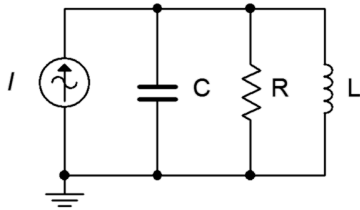

Figure 8.13
42. Investigate the “ Q increase” in reactive currents compared to source and resistive currents in a parallel resonant circuit. A simple way to verify this is by placing AC ammeters in each of the branches of the circuit shown in Figure 8.13. Use $R = 630 \Omega$, $C = 40 \text{ nF}$, $L = 10 \mu\text{H}$ and $I = 1 \text{ mA}$. It is worthwhile to compare sets of simulations for different resistor values to see the current changes relative to the system Q . Slight variations of the source frequency may be required to reach the peak.